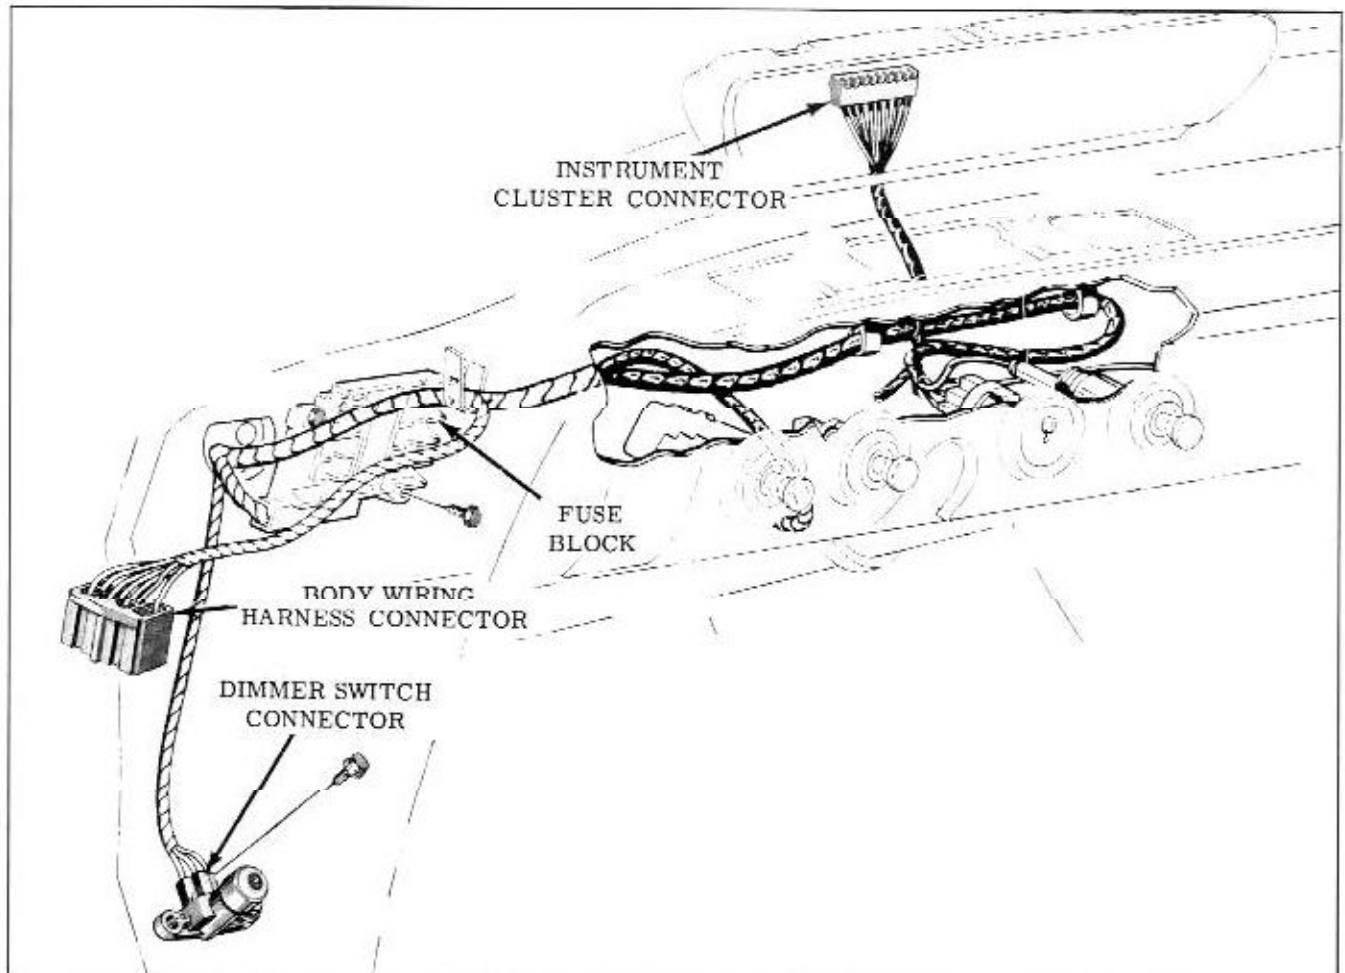

Fig. 13-3 Instrument Panel Wiring
2. Route harness branches to components under instrument panel. (Fig. 13-3)